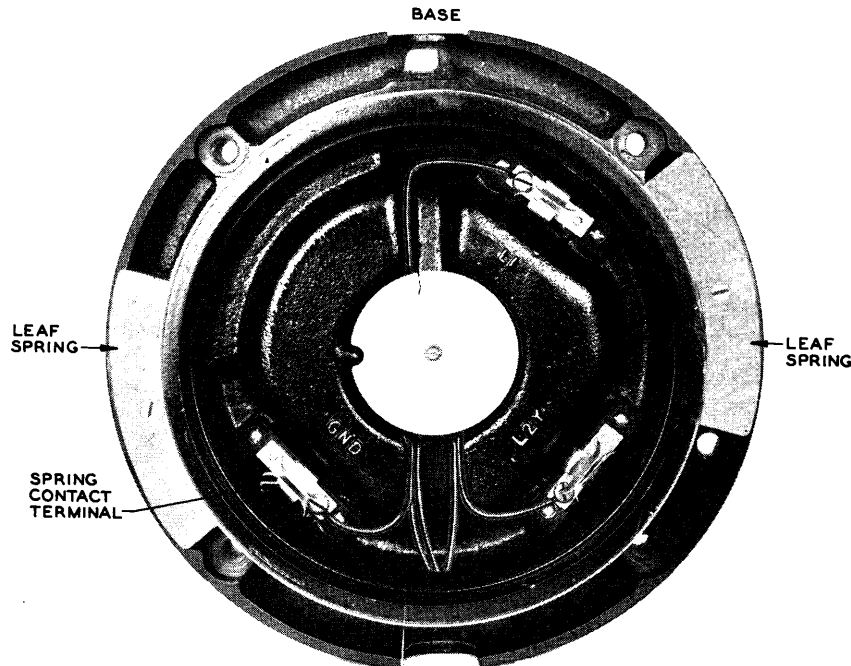

Fig. 4 — Local Wiring in Base
**2.02** The base provides an externally threaded projection to engage corresponding threads in the housing. It also provides spring-type contact terminals for line and ground conductors (see Fig. 4).
3.01 Connect local wiring to terminals in base of set (see Fig. 4). Check unused pipe plug to see that a minimum of five threads is engaged.